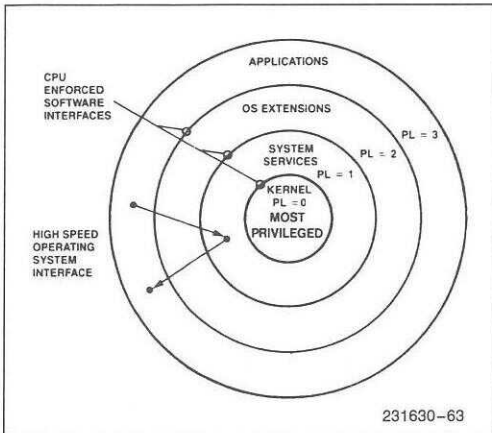

Figure 4-14. Four-Level Hierarchical Protection
The four-level hierarchical privilege system is illustrated in Figure 4-14. It is an extension of the user/supervisor privilege mode commonly used by minicomputers and, in fact, the user/supervisor mode is fully supported by the 80386 paging mechanism. The privilege levels (PL) are numbered 0 through 3. Level 0 is the most privileged or trusted level.